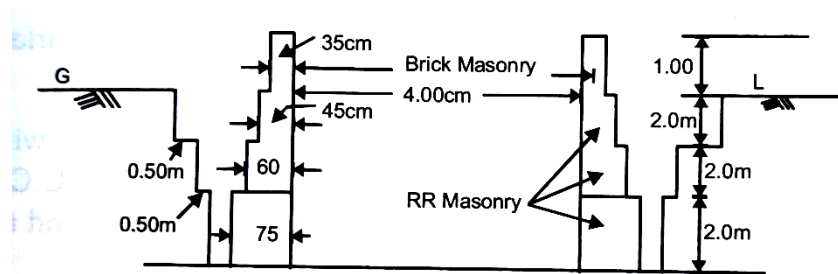

Fig.1
10. The cross section of a circular well is shown in the fig.1, calculate the quantity of masonry in parapet wall.